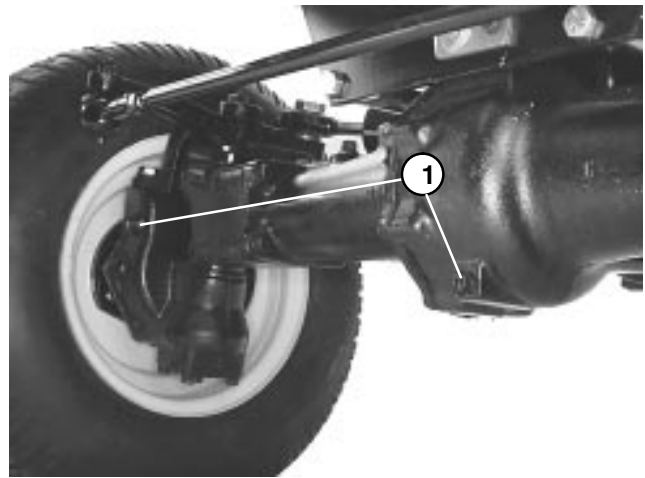

Figure 43
(Fig. 43)
2. Clean area around the (3) drain plugs, (1) on each end and (1) in the center (Fig. 43).